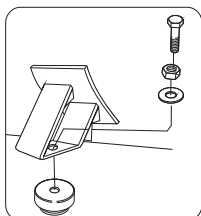

FIGURE 1
- Foundation/floor:** It must be placed on a concrete base, which must be able to bear the equipment weight plus the liquid (water) when of the hydrostatic test. The set must be level. The compressor models is equipped with rubber foot (assembled by owner) see Figures 2, 3 and 4 and Figure 1 for model MSV 12/175, place de compressor on anti-vibration (owner's responsibility), absorbs which, in turn, must be replaced on a concrete basis. The set must be level and the absorber must be adequate to support the equipment weight and vibration. **Note:** Use a little water to assembly the absorber for models MS 3/30, CSA 6,5/30, MSV 6/30 and MSV 6/50, Figure 3.